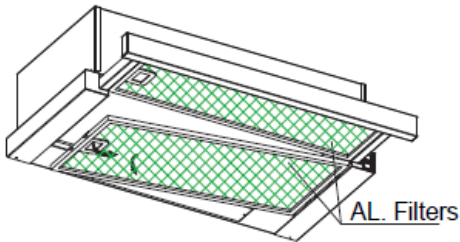

Fig. 10
- Press the aluminium filter tab (2) and pull the aluminium filter to the direction of the arrow (Fig. 10).